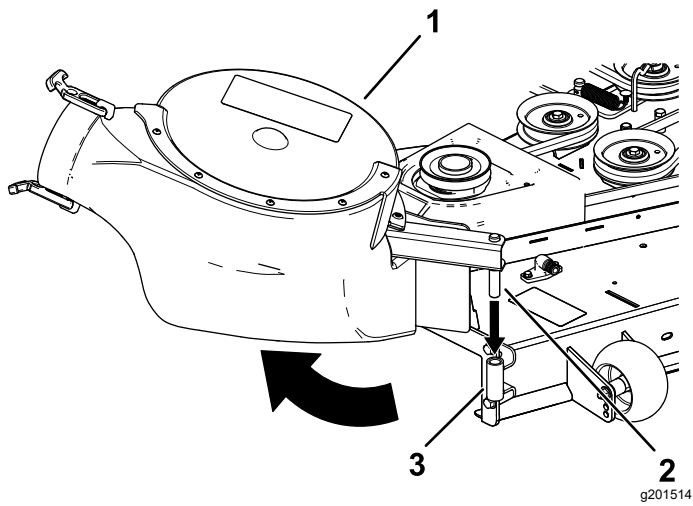

Figure 24
- Insert the blower pivot pin into the blower support and rotate the blower assembly inward toward the machine (Figure 24).